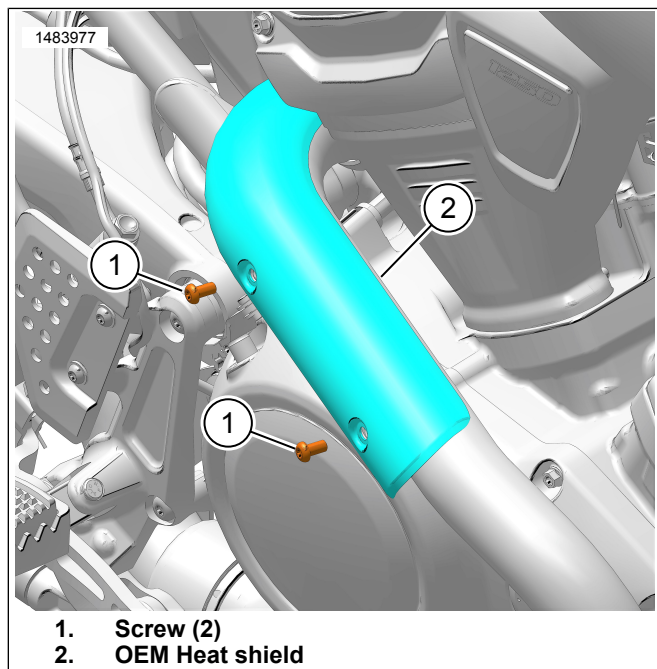

Figure 2. OEM Heat Shield
1. See Figure 2. Remove and discard screws (1).
2. Remove OEM heat shield (2).